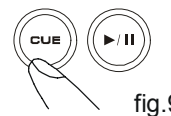

fig.9
- b. Next, rapidly press the CUE button in sync with the music (figure 9).